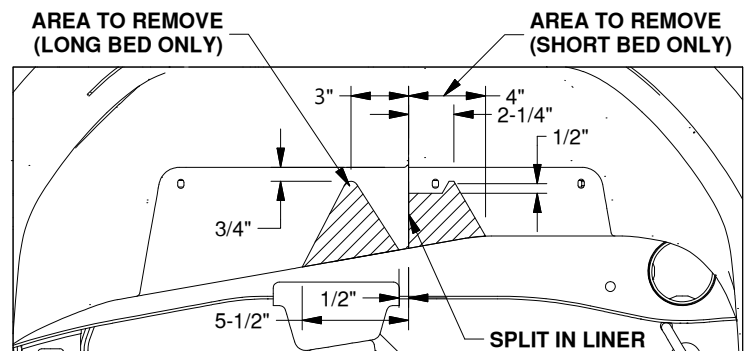

Figure G3: View looking into driver side wheel well.
2. **Modify fender liner.** If a fender liner is present, it will need to be modified by cutting a relief to allow the handle to move freely. See Figure G3 as a guide to cut the rear fender liner in the driver side wheel well.